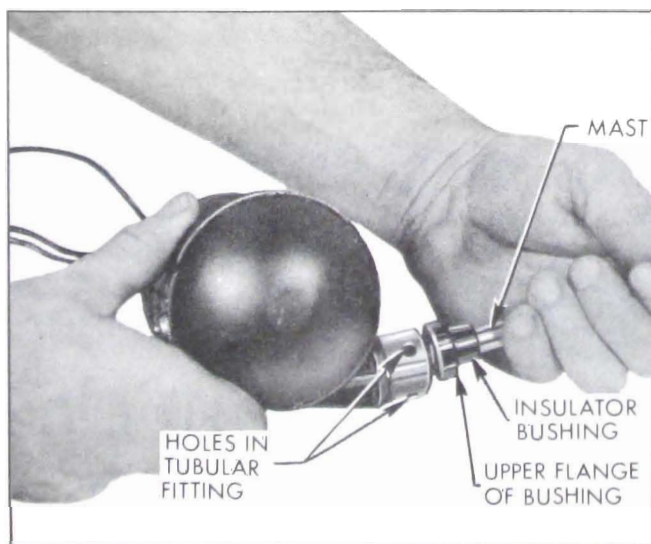

Figure 11-9—Positioning of Insulator Bushing
2. Push .400" tube section and insulator bushing into tubular fitting. Make sure that the upper edge of insulator bushing flange is below center of the 3 holes in the tubular fitting on the drive assembly. See Figure 11-9.